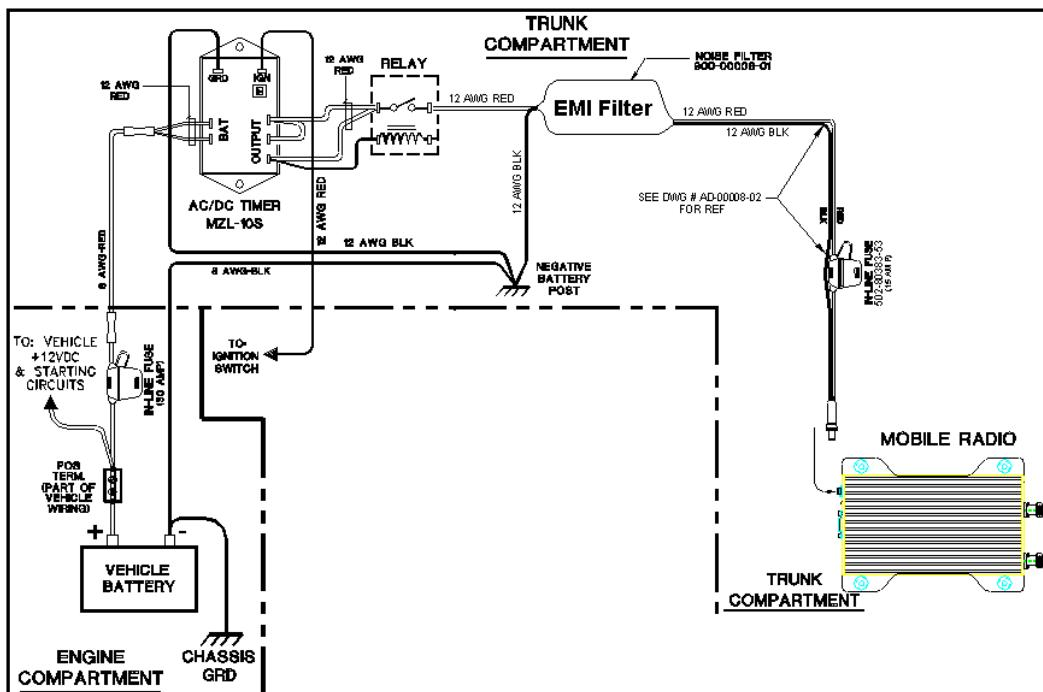

Figure 9: Trunk Compartment Installation
2. As shown in Figure 9 below, mounting of the mobile radio, delay timer, relay, and EMI filter will take place in the trunk compartment, unless installing in a vehicle without a trunk (refer to page 31 for the full drawing).